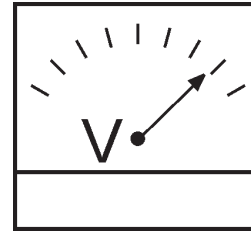

Figure 46. Voltmeter
8. The generator's AC-volmeter (Figure 46) will display the generator's output in **VOLTS**.